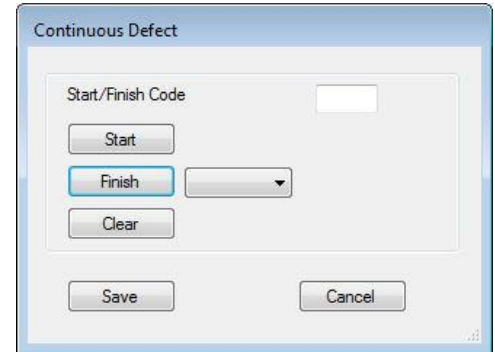

Figure 4.11 Continuous Defect window
- Press **Continuous Defect** to identify the start or the end of a continuous code (see Figure 4.11).